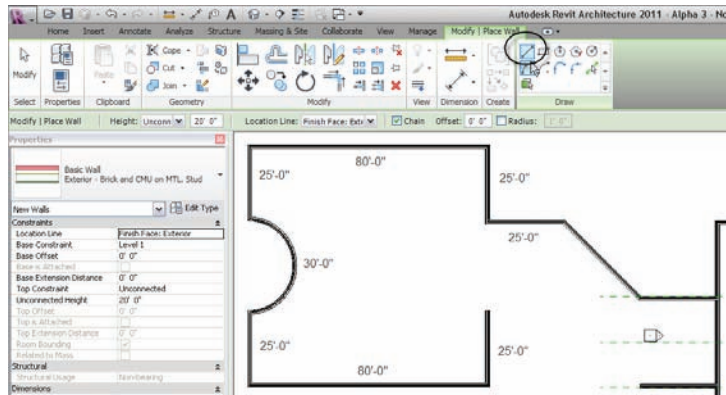

FIGURE 2.10 The building up to this point
21. On the Draw panel, click the line button in the upper-left corner, as shown in Figure 2.10. This will allow you to draw a straight wall again.
25. Press Esc. Your building should look like Figure 2.10.